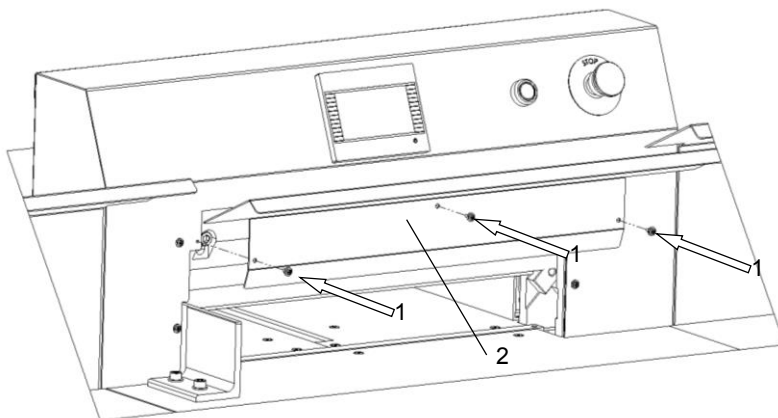

Figure 34.
8.1.2.23 Attach cover 2 with the screws 1 (fig.34)